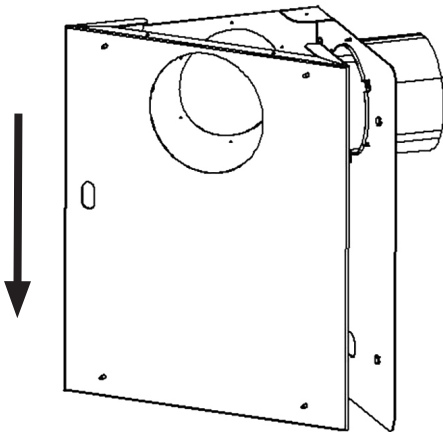

Figure 6
6. Having secured the wall plate to the wall, fit the diagonal mounting plate as shown in **Figure 6**. Please ensure that all (4) mounting pins are fully engaged in the (4) keyway slots.